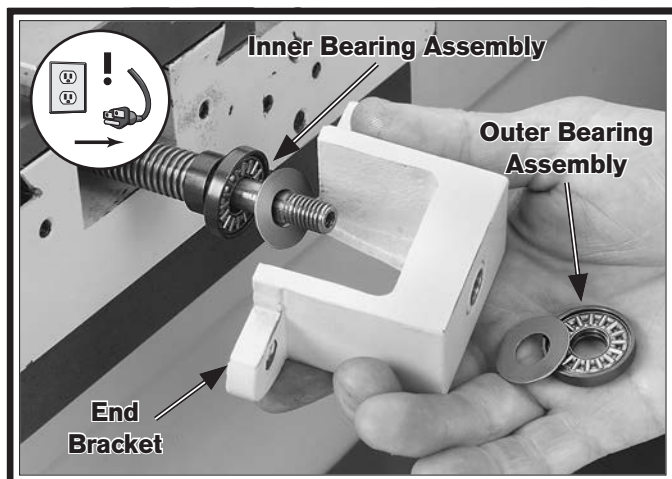

Figure 6. Leadscrew end bracket removed.
7. Keep the bearing parts together in the same orientation as they were installed as you remove them and the end bracket from the leadscrew (see **Figure 6**).